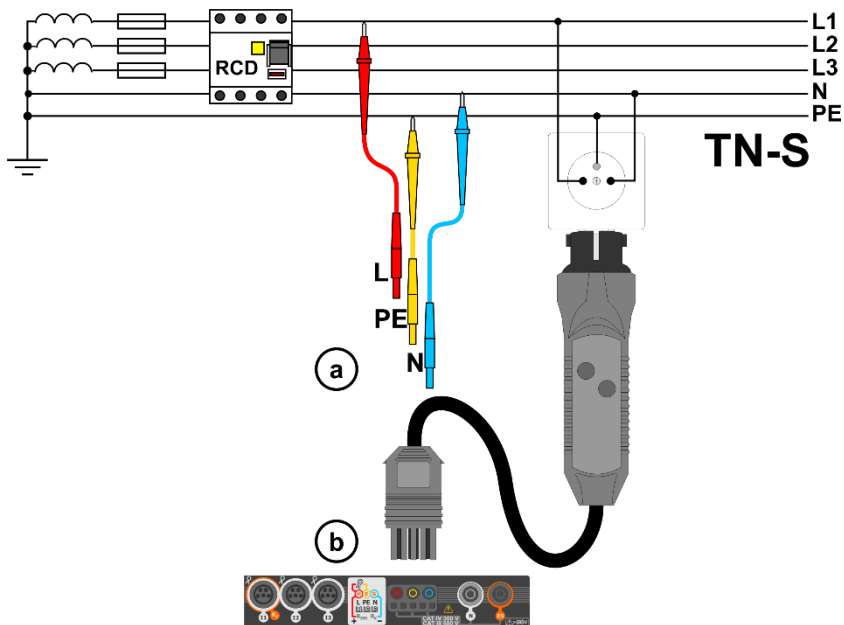
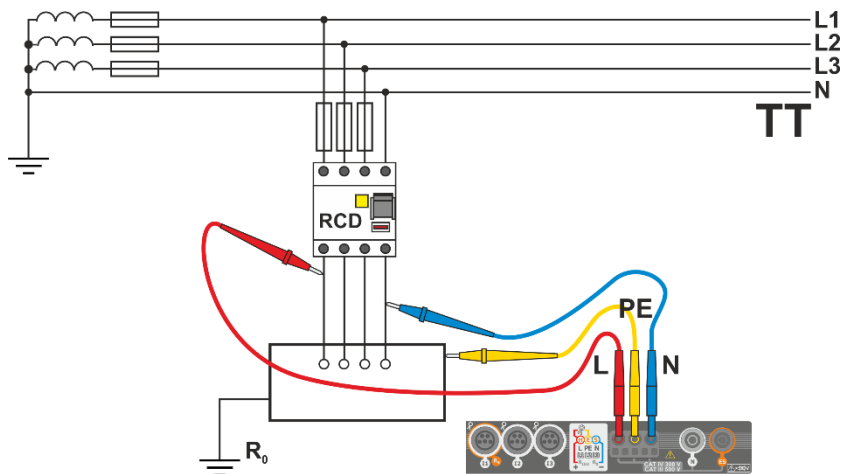

Fig. 3.3 Measurement in the TN-S system
Fig. 3.4 Measurement in the TT system
① Connect test leads according to Fig. 3.3 , Fig. 3.4 or Fig. 3.5.